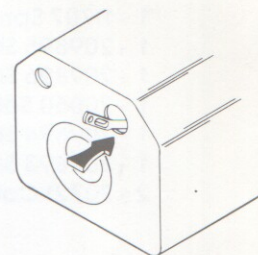

FIG. 4
10. Push the shifter rod end into the unit as far as it will go. See Fig. 4.